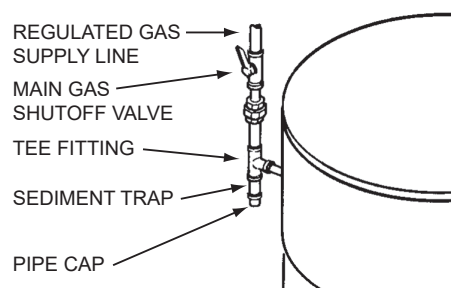

Figure 58. Supply Gas Line Installation
Ensure all gas pipe is clean on the inside before installation. To trap any dirt or foreign material in the gas supply line a sediment trap must be installed as shown in **Figure 58**. The sediment trap must be readily accessible and not subject to freezing conditions. Install in accordance with the recommendations of the local gas utility company.
7. Install a sediment trap as shown in **Figure 58** (page 50).
8. Install a Main Gas Shutoff valve in the supply gas line as shown in **Figure 58** (page 50).
1. For test pressures exceeding 1/2 psi (3.45 kPa) disconnect the water heater and its Main Gas Shutoff Valve from the gas supply piping system during testing, see **Figure 58** (page 50). The gas supply line must be capped when disconnected from the water heater.